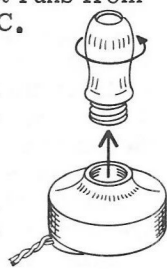

Figure 3-73A
- ( ) Take the earphone apart as shown in Figure 3-73A.